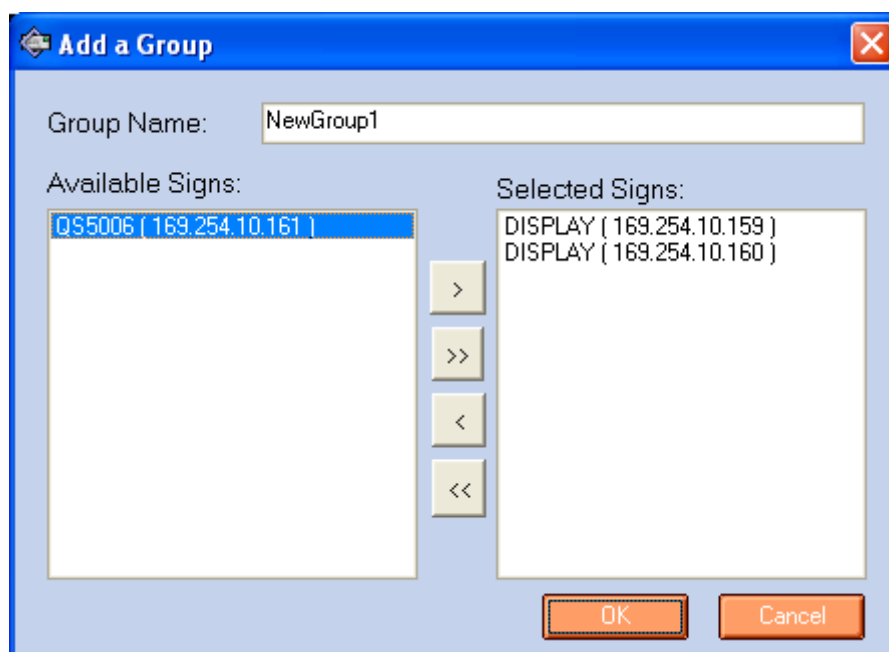

Fig. 6.30 Add group
**Group**: Add group. Please see Fig.6.30, to add a new group, user just needs to drag the LED sign from the left window to the right window.